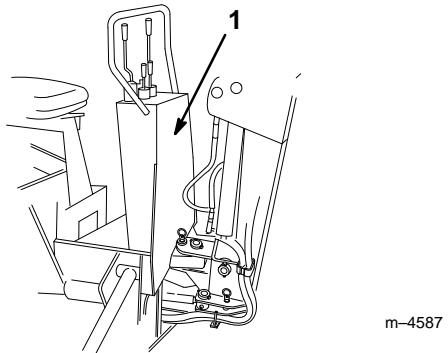

**Figure 24**
1. Remove the bolts and nuts securing the upper bucket pin (Fig. 24).
3. Swing the bucket up, aligning the second set of holes with the mounting holes on the dipperstick (Fig. 24).